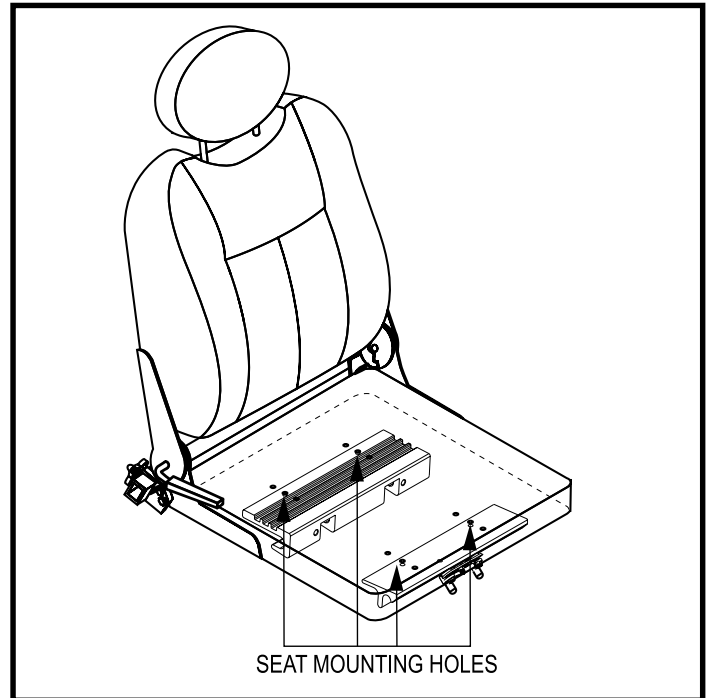

Figure 16. Seat Position Adjustment
6. Reposition the extrusions on a different set of mounting holes. You must move both extrusions the same number of holes either forward or rearwards. See figure 16.